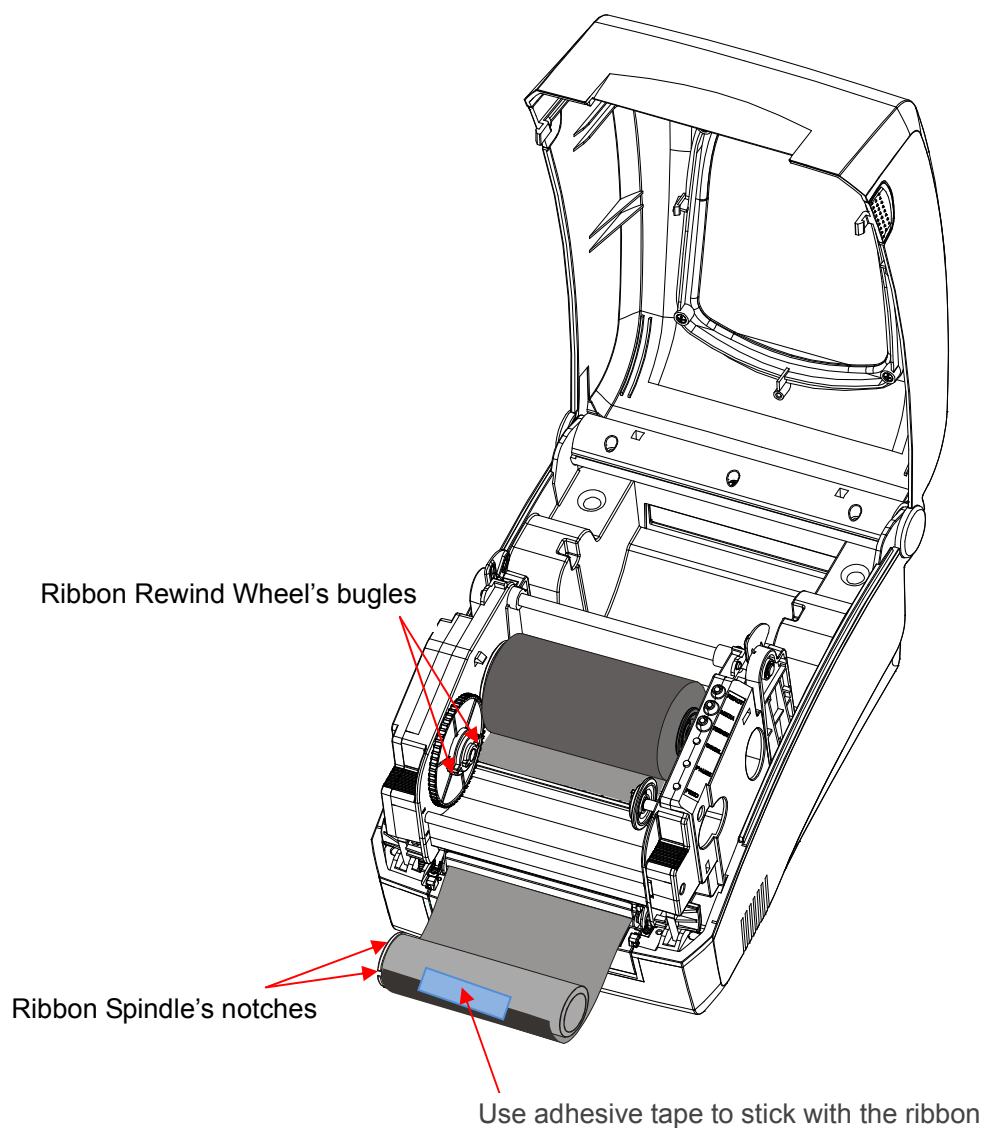

Figure 5-5
8. Wrap the end of the ribbon around the ribbon take up core. (see Figure5-5)